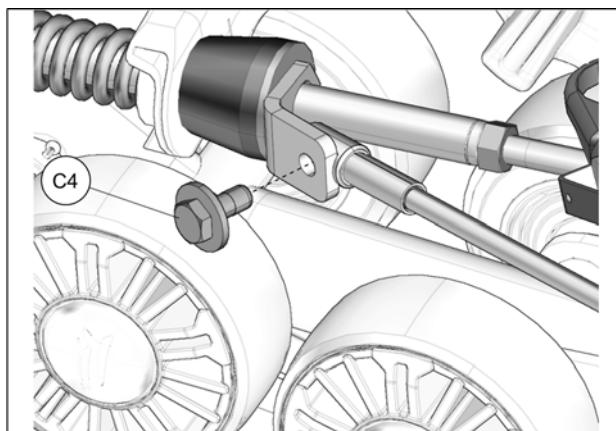

Fig. 23
13. Reverse steering wheel a little to be able to bolt support plate and cable together. Tighten provided bolt (**C4**) to 35 N·m [24 lb·ft]. See Fig. 23. Repeat steps on right side.